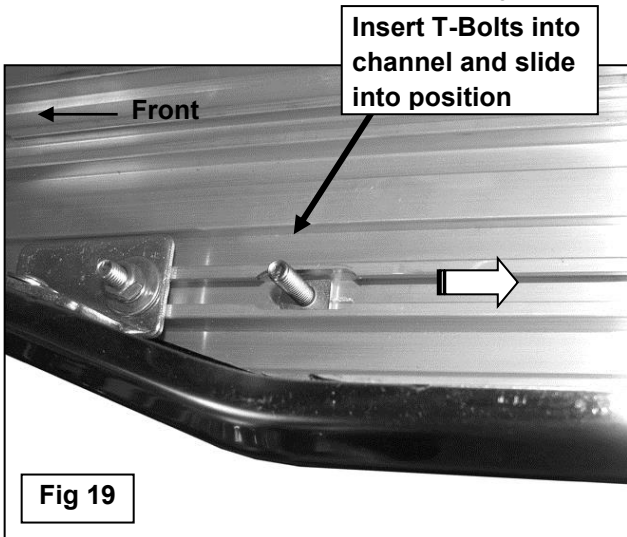

Fig 19
8. Carefully unwrap and select the driver side Running Board. Insert (3) 6mm T-Bolts into each slot in the end of the channels, (3 T-Bolts per channel), on the bottom of the Running Board, (Fig. 19). Hold the Running Board up in approximate position and slide the T-Bolts down to line up with the (3) Mounting Brackets. Tilt the Board up at a slight angle and push back against the vehicle until the T-Bolts fit into the slots on the Brackets. Secure the Board to the Brackets with (6) 6mm Flat Washers, (6) 6mm Lock Washers and (6) 6mm Hex Nuts, (Fig. 20). Do not tighten hardware at this time. **NOTE:** the Running Board is designed to fit close to the vehicle. It may be necessary to temporarily loosen the Bracket hardware and tilt the Brackets downward to insert the Running Board.